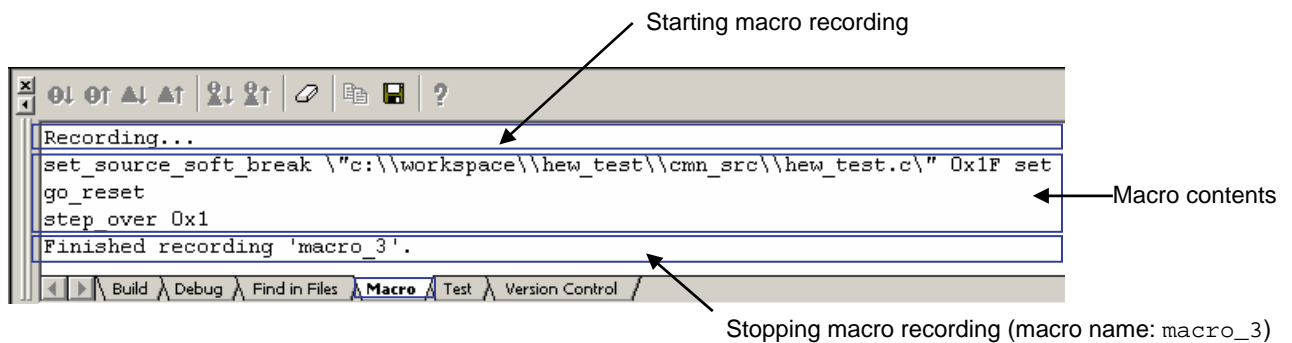

Figure 1-4
Enter the name of the new macro, and click the **OK** button. When recording is stopped, the mouse cursor returns to its previous state. Figure 1-4 shows an example of recording operations (1) to (3) below.
- (1) Insert a breakpoint at line 31 in `c:\workspace\hew_test\cmn_src\hew_test.c` (from the **Edit** menu, choose **Toggle Breakpoints**)
- (2) Perform a reset go (from the **Debug** menu, choose **Reset go**)
- (3) Perform step over (from the **Debug** menu, choose **Step Over**)